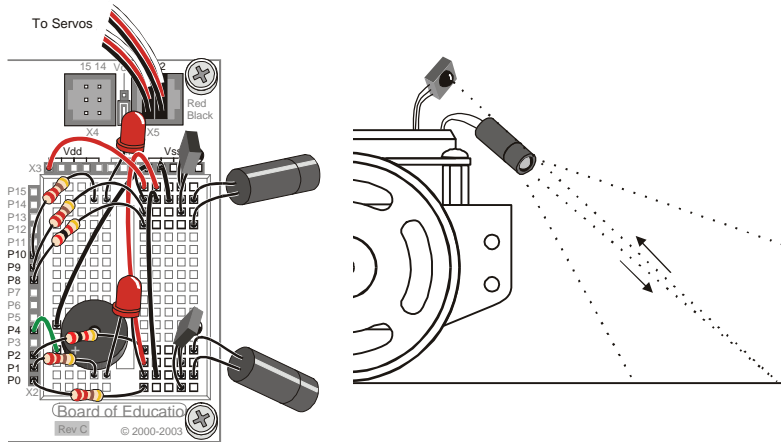

Figure 7-11
Up until now, the Boe-Bot has mainly been programmed to take evasive maneuvers when an object is detected. There are also applications where the Boe-Bot must take evasive action when an object is not detected. For example, if the Boe-Bot is roaming on a table, its IR detectors might be looking down at the table surface as shown in Figure 7-11. The program should make it continue forward so long as both IR detectors can “see” the surface of the table.
- ✓ Point your IR object detectors downward and outward as shown in Figure 7-11.